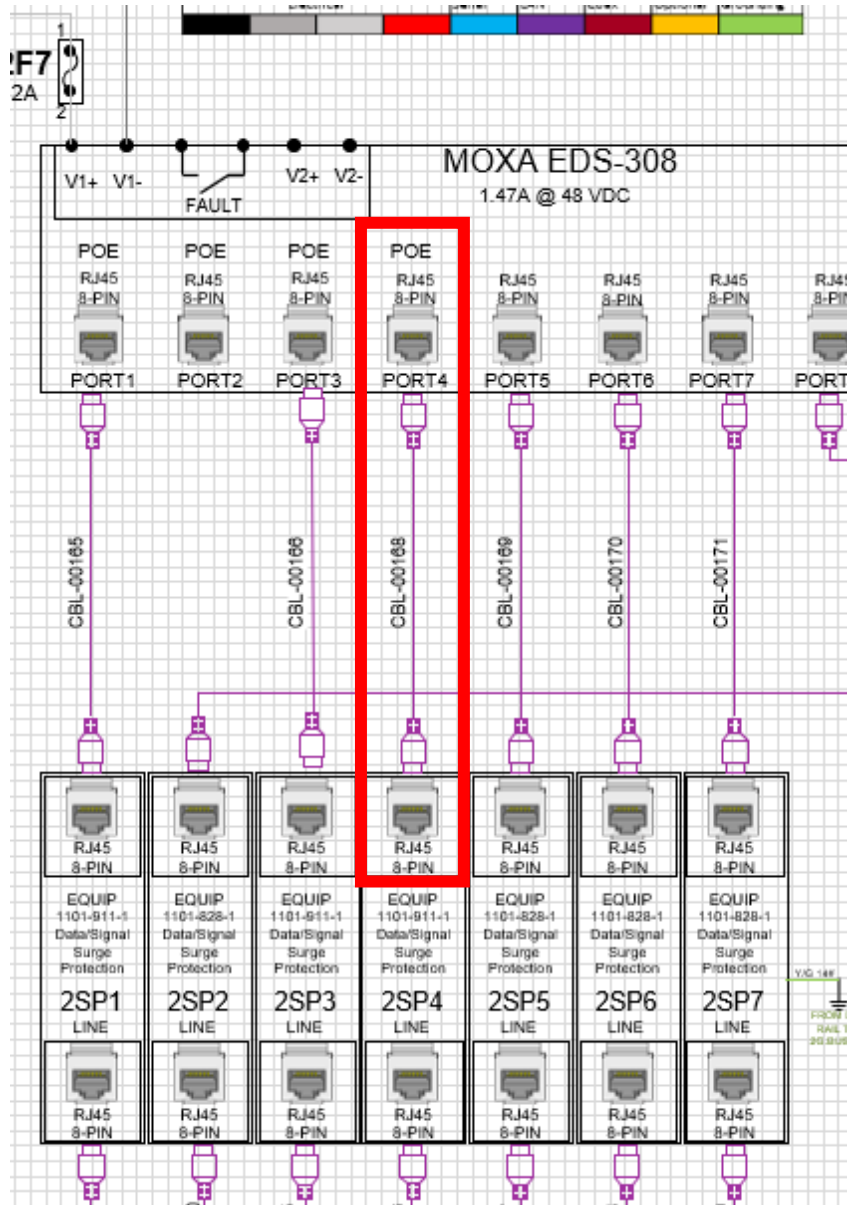

Figure 21 The LAN cable from MOXA Port 4 (POE) to the 2SP4 module
1. Disconnect the LAN cable that connects **Port 4** from the MOXA to the **2SP4** surge protection module (see Figure 21).